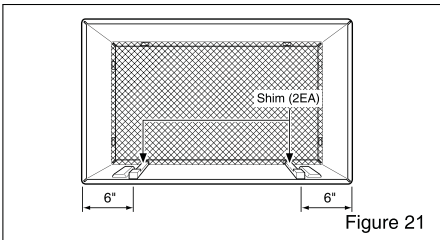

Figure 21
- 7** To achieve rearward slope for unit draining, remove the backing from the $1\frac{13}{16}$ " shim strips and attach them as shown below in Figure 21. The higher portion of shim is to be placed in front of the rib on the base of wall sleeve.